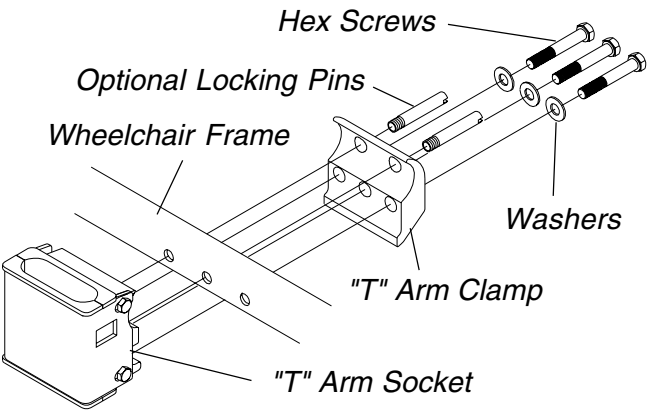

FIGURE 1 - INSTALLING THE "T" ARM SOCKETS
INSTALLING THE "T" ARM SOCKETS (FIGURE 1)
2. Position the "T" arm socket and "T" arm clamp on the wheelchair frame as shown in **FIGURE 1**.
NOTE: If desired, locking pins can be installed to secure the "T" arm brackets to the wheelchair frame, as shown in FIGURE 1.